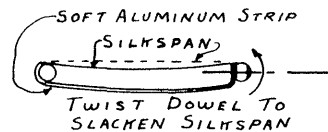
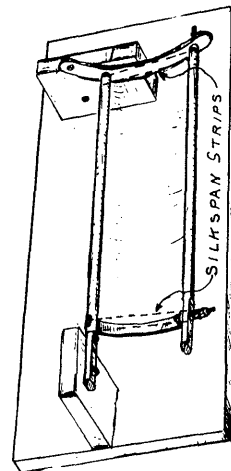

FIG. 5
FIG. 4
Fig. 4 shows a modification to Harry's fixture which greatly eases the problem of slackening the film. Instead of covering the fixture on the bottom, install two strips of heavy silkspan across the top of the fixture, and cover it on top using rubber cement as adhesive. Thus, when the helix is twisted in (step 3, Fig. 3), twist the right hand dowel counterclockwise to slacken the film (Fig. 5)
A special vote of thanks to Harry Keshishian for making the photographic positive used in Fig. 3 and Fig. 4.
- (1) T (Thrust) = Lift $(\cos \theta - D/L \sin \theta)$
- (2) τ (Torque) = $r \times$ Lift $(D/L \cos \theta + \sin \theta)$
- (3) $\frac{T}{\tau} = \frac{\cos \theta - D/L \sin \theta}{r(D/L \cos \theta + \sin \theta)}$
- (4) $\frac{T}{\tau} = \frac{1 - D/L \tan \theta}{r(D/L + \tan \theta)}$
In the mathematical discussion above, equations 1 & 2 (derived from Fig. 3) are combined to yield eq. 3. It can be shown that (3) can be simplified to yield (4). D/L is estimated to be about .2 for normal indoor props. Using .2 as a value for D/L , a plot of T/τ can be computed using Eq. 4. Fig. 4 shows T/τ for a 34" pitch prop (solid line) and a 30" pitch prop (dashed line).
The ratio T/τ expresses directly the efficiency of the blade element, so Fig. 4 shows that prop efficiency gets better with lower pitch. It also shows that elements near the hub contribute little to thrust; in Fig. 3, if θ increases to a very large angle, Thrust as expressed in eq. 1 actually becomes negative - effectively it is pure drag for the model. This means that the prop will be more efficient if the hub section is left off.
Meanwhile, prop efficiency can be increased by lowering the value of D/L . Larry estimates that D/L might go as low as .1; Fig. 5 shows the variation of T/τ for a 34" pitch prop as D/L changes from .2 (solid line) to .1 (dashed line). Larry feels that a D/L of .1 might be achieved by covering both sides of the prop. Once again, I have heard of double covered props being tried, but flight profiles were not taken. Since reduction of D/L results in higher efficiency of the propeller (as shown in Fig. 5), the prop will do the same work at lower torque input. So, a smaller rubber cross section will do the same job and you gain two ways - more turns possible and lower wing loading of the model. That's the theory - try it out!
Larry's design procedure calls for a horizontal intercept with the T/τ plot to determine prop diameter and blade length as shown with line "A" in Fig. 4. Line "A" would yield a prop with diameter 17" and a stubby blade segment only 3 1/2" long. Quite possibly this would give a prop with insufficient blade area. Line "B" would give a 19" dia. prop with a 5" blade segment - considerably more area. Of course you can use a tilted intercept such as line "C"; the whole point of this exercise has been to minimize the high-loss blade area near the hub.